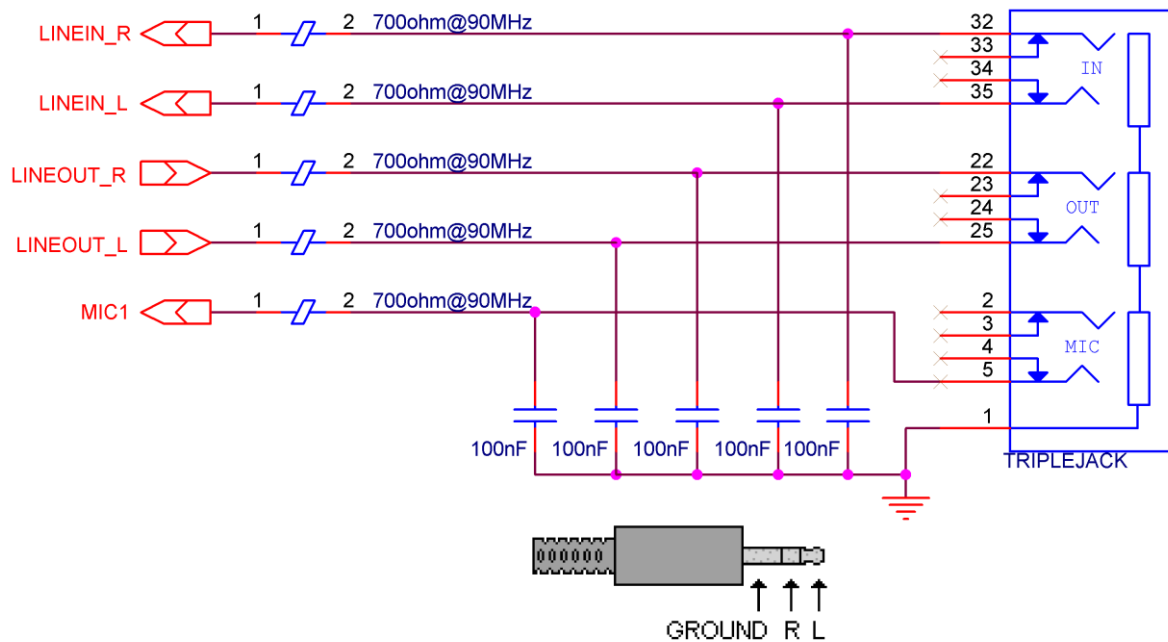

Figure 4: Audio connection
- Figure 4: Audio connection 11